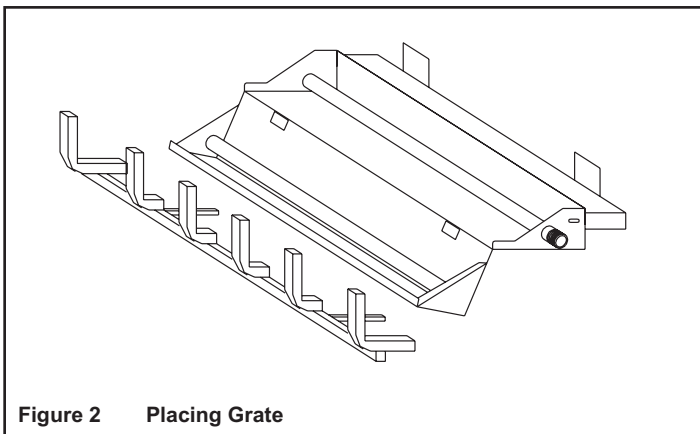

Figure 2 Placing Grate
- Install the grate by placing the inserts (attached to the grate) into the slots provided in the burner pan. Slide the inserts into the slots (See Figure 2) and push the grate as far as possible to the locked position.